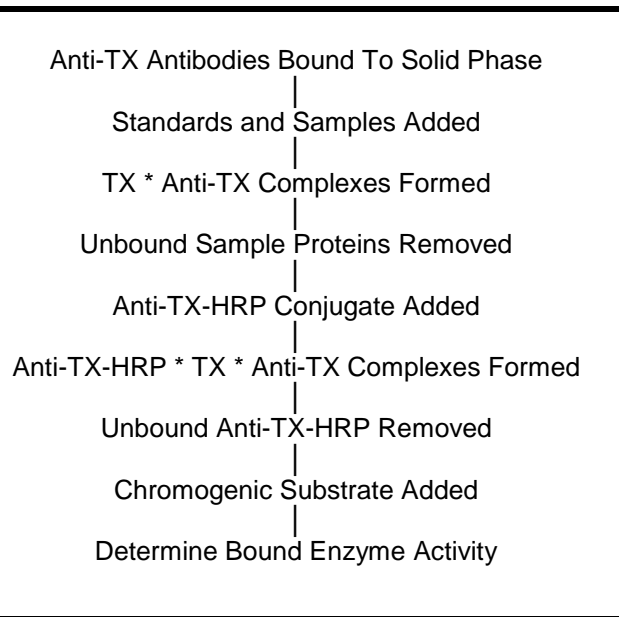

Figure 1
The principle of the double antibody sandwich ELISA is represented in Figure 1. In this assay the ovotransferrin (TX) present in samples reacts with the anti-TX antibodies, which have been adsorbed to the surface of polystyrene microtitre wells. After the removal of unbound proteins by washing, anti-TX antibodies conjugated with horseradish peroxidase (HRP) are added. These enzyme-labeled antibodies form complexes with the previously bound TX. Following another washing step, the enzyme bound to the immunosorbent is assayed by the addition of a chromogenic substrate, 3,3',5,5'-tetramethylbenzidine (TMB). The quantity of bound enzyme varies directly with the concentration of TX in the sample tested; thus, the absorbance, at 450 nm, is a measure of the concentration of TX in the test sample. The quantity of TX in the test sample can be interpolated from the standard curve constructed from the standards, and corrected for sample dilution.